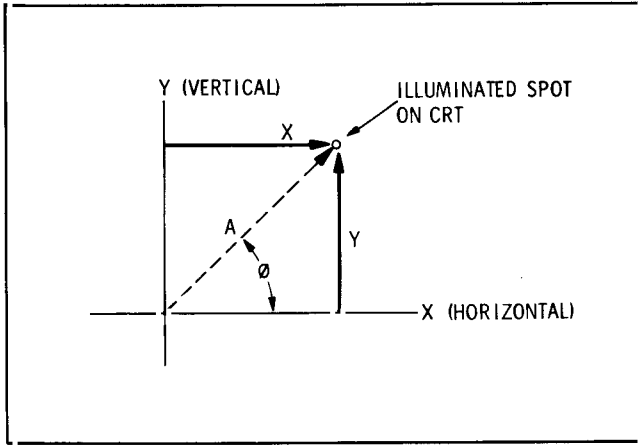

Figure 8-8. Horizontal and Vertical Vectors Required to Deflect CRT Beam
that can be displayed on the CRT. This is done by producing an illuminated spot on the CRT where the arrowhead of the vector would appear. (See Figure 8-8.) This can be interpreted into amplitude (A) and phase (φ) by the use of the built-in polar graph on the face of the CRT.
To produce the illuminated spot on the CRT, the amplitude and phase of the polar signal must be resolved into X (horizontal) and Y (vertical) rectangular components as shown in Figure 8-8. These X and Y signals are applied to the horizontal and vertical deflection plates producing a spot on the CRT representing the arrowhead of the vector.